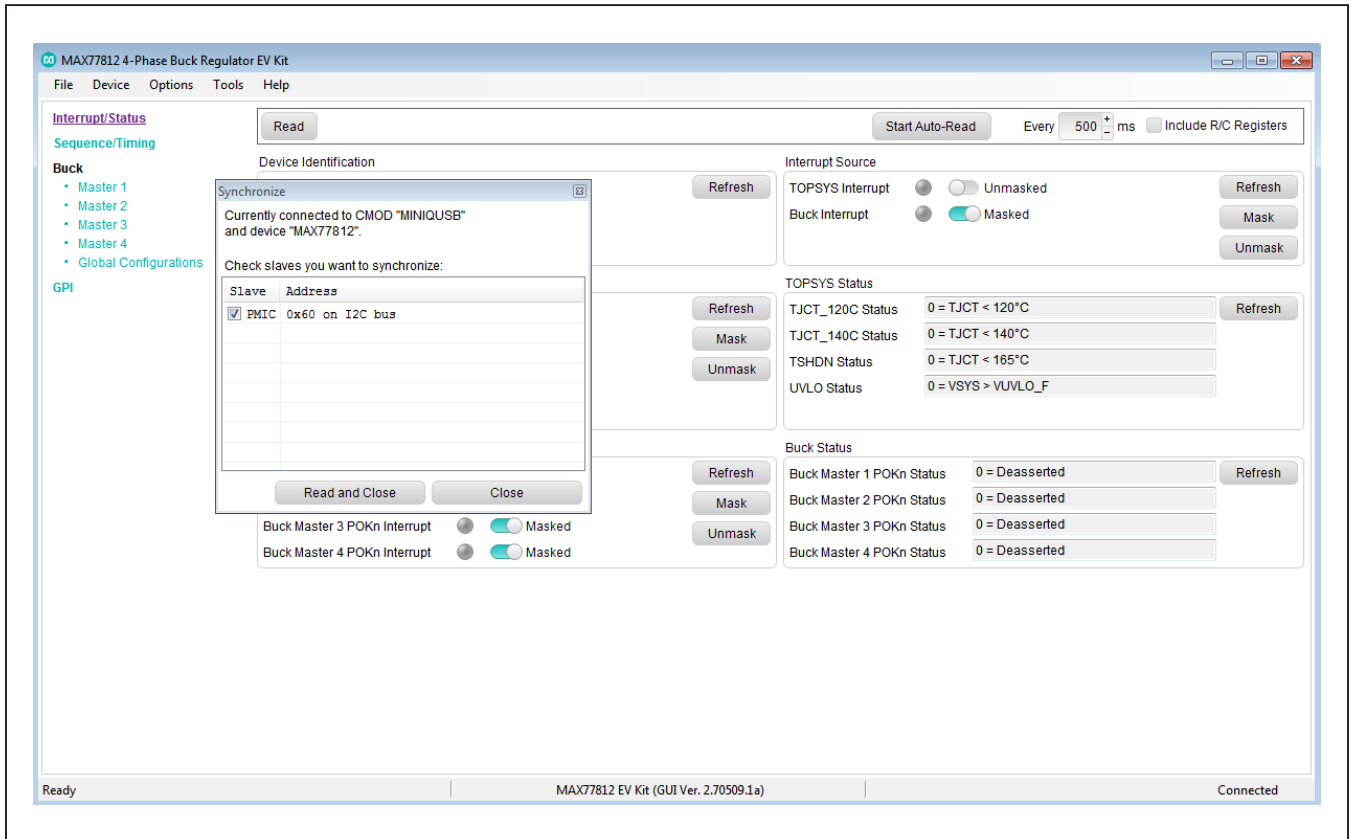

Figure 4. MAX77812 EV Kit GUI Connection
- 4) Enable the power supply output and confirm the input current is low ( $< 100\mu\text{A}$ ). Open the MAX77812 GUI window and click on **Device** then **Connect**. If the connection is successful, it displays the message **Currently connected to MINIQUSB CMOD and DEVICE MAX77812**. Click **Read** and close (Figure 4).